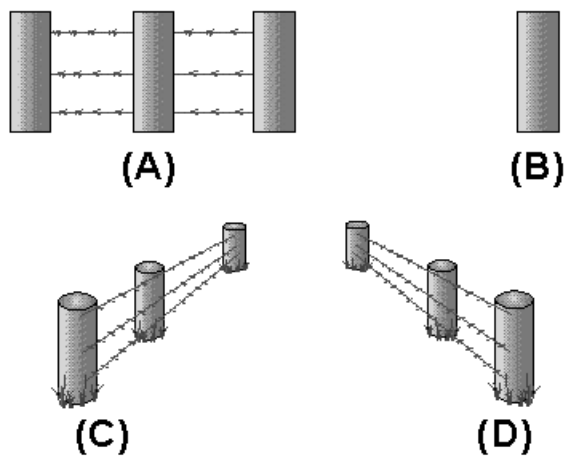

Figure 1-40.—Parallax illustration (barbed-wire fence).
The purpose of the mirror on the scale of a meter is to aid in reducing **PARALLAX ERROR**. Figure 1-40 will help you understand the idea of parallax.
Figure 1-40(A) shows a section of barbed wire fence as you would see it from one side of the fence. Figure 1-40(B) shows the fence as it would appear if you were to look down the line of fence posts and were directly in line with the posts. You see only one post because the other posts, being in line, are hidden behind the post you can see. Figure 1-40(C) shows the way the fence would appear if you moved to the right of the line of posts. Now the fence posts appear to the right of the post closest to you. Figure 1-40(D) shows the line of fence posts as you would see them if you moved to the left of the front post. This apparent change in position of the fence posts is called **PARALLAX**.